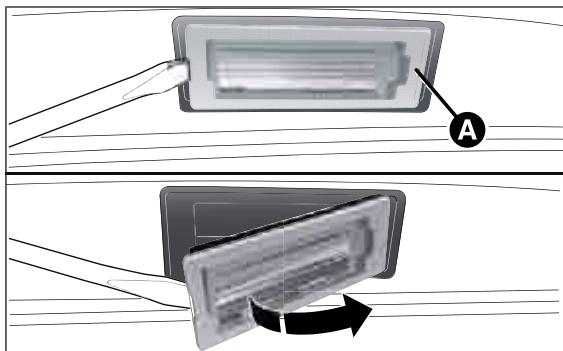

fig. 125
- ☐ remove lens A fig. 125;
- ☐ refit the lens A fig. 125.